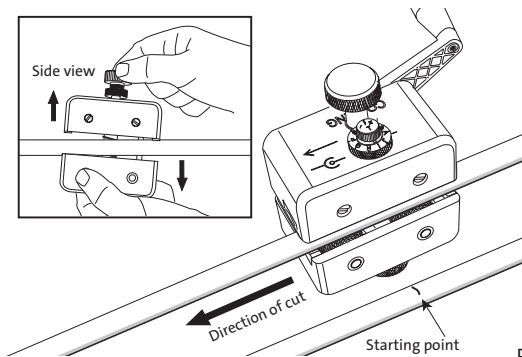

Figure 9
- a. Determine the start point and direction in which you will make the cut. Position the tool over the central tube so that the middle of the tool is aligned with the start location of the cut and the top and bottom arrows are pointing in the direction of the cut (Figure 9).
Hold the tool in your left hand. Tilt it backward, lifting the front and pressing down on the rear of the tool. Apply enough force to compress the front lower and the rear upper “V”-shaped spring loaded guides. While holding this position (Figure 9, inset) use your right hand to tighten the knurled knob, closing the tool on the tube. Tighten until just snug. Turn the handle slightly to see if the tool will track on the tube. Tighten the tool in small steps until the tool moves smoothly along the tube. The purpose of this method of placing the tool on the tube is to prevent blade damage from side forces on the blades while they become engaged with the tube.